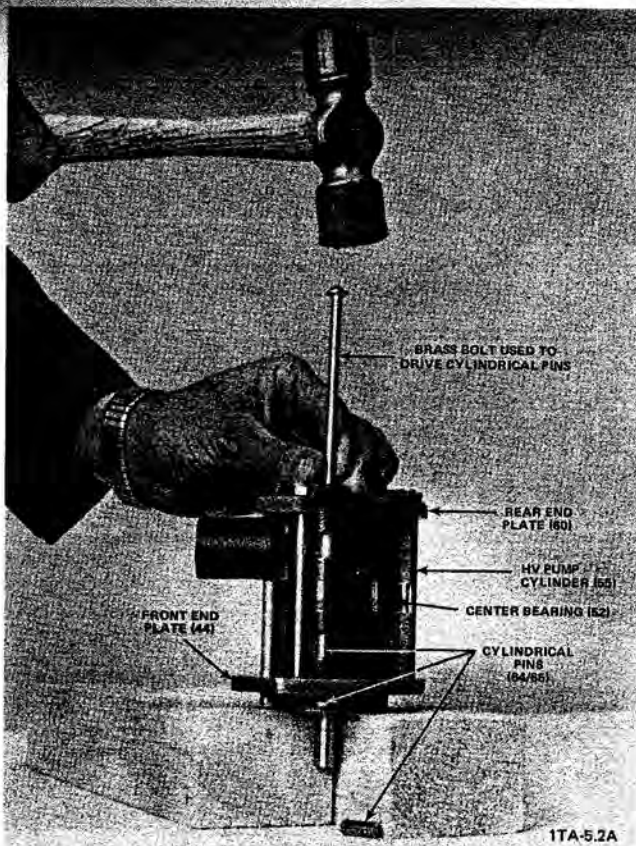

Figure 5-5. Removing the Cylindrical Pins From the Module (D2A Pump Model Shown)
- Using a hammer and a drift pin (or long bolt), remove the cylindrical pins as follows (see Figure 5-5).
- Drive one of the two short cylindrical pins (64) that aligns the rear end plate (60) and the high vacuum stage pump cylinder (55) toward the center bearing (52) until the pin (64) falls out.
- NOTE: On some pump models, this pin (64) does not have room to fall out. In this case, continue driving it until all three pins fall out of the alignment hole in the front end plate (44).**
- While keeping the drift pin (or bolt) inserted through the rear-end-plate alignment hole, drive the long cylindrical pin (65) toward the front end plate (44). Continue driving the cylindrical pins
until the long pin (65) forces the other short pin (the one that aligns the front end plate (44) and the second stage pump cylinder) to fall out, and then the long pin also falls out of the front-end-plate alignment hole (see Figure 5-5).